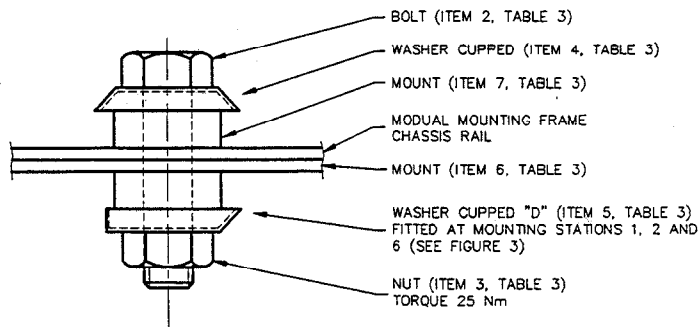

Figure 5 - Mounting Fixtures
- y. Using Items 2 to 7 listed in Table 3, secure the module using mounting fixtures, as shown in Figure 5.
Normal cupped washers (Item 4 from Table 3) are fitted, as shown in Fig 5. Some of the polyurethane mounts may require modifications to be fitted on mounting bolts close to upright posts.